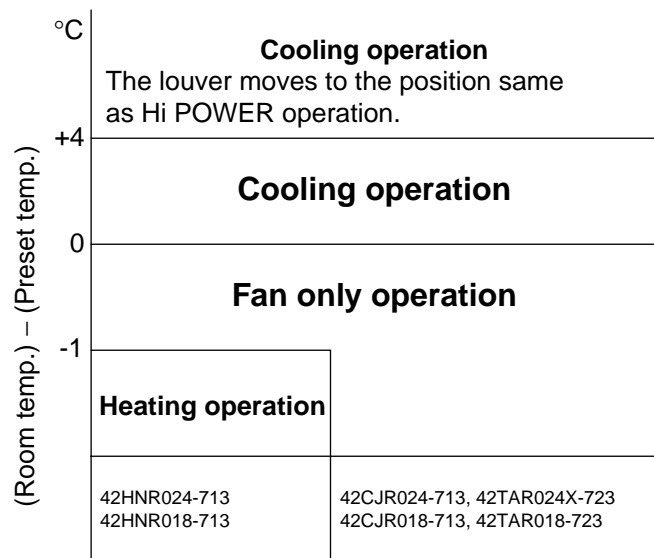

Fig. 7-2-9
- (1) One of 3 operations (Cooling, Fan only or Heating) is selected according to difference between the preset temperature and the room temperature at which the automatic operation has started, as shown in Fig. 7-2-9. The Fan only operation continues until the room temperature reaches a level at which another mode is selected.
- (2) Temporary Auto
When the TEMPORARY button on the indoor unit is pushed, the preset temperature is fixed at 24°C and the indoor unit is controlled as shown in Fig. 7-2-9.